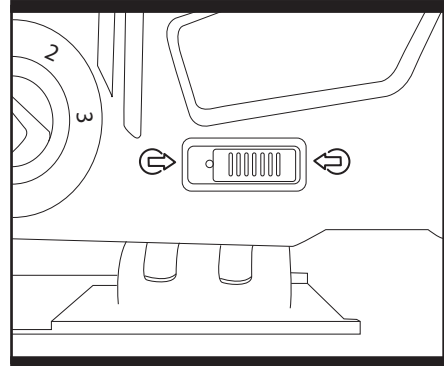

Fig. 3
3. Vacuum and blower selector (Fig. 3)